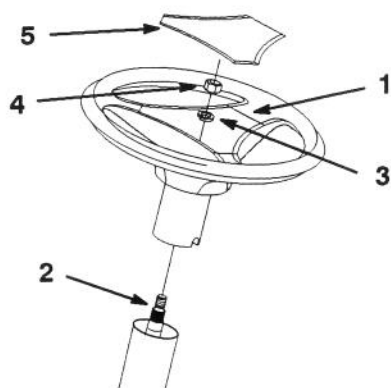

Figure 3
2. Line up center spoke toward the seat and position the steering wheel onto shaft spline (Fig. 3).
3. Secure steering wheel with lockwasher and nut (Fig. 3).
5. Snap logo cover into place (Fig. 3).